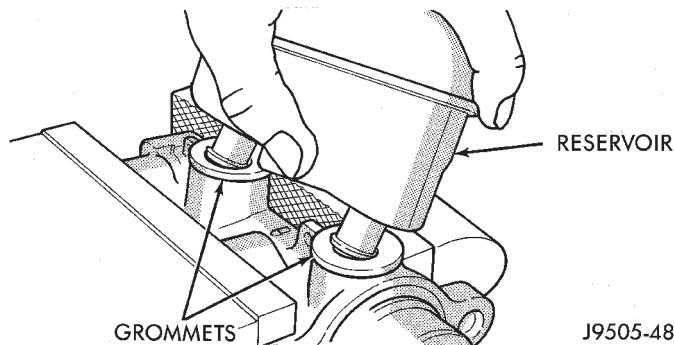

Fig. 42 Reservoir Removal
(5) Remove reservoir by rocking it to one side and pulling free of grommets (Fig. 42).